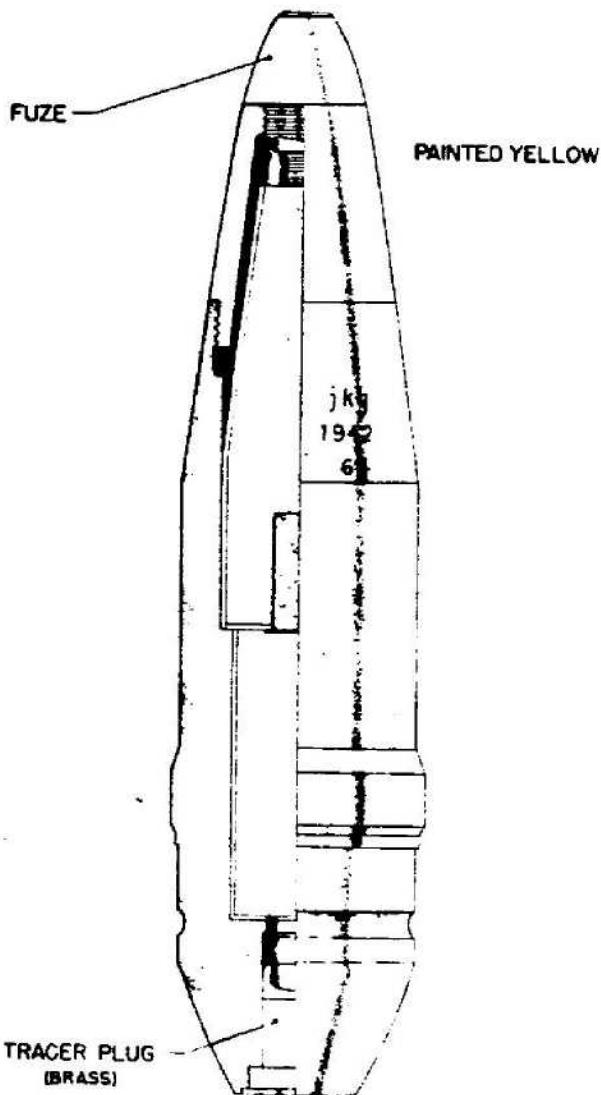

Figure 360—H. E. Projectile for Antiaircraft Gun, 40-mm, 4-cm Sprgr. Patr.
**GERMAN NOMENCLATURE:** 4-cm Sprgr. Patr. (Sprenggranate Patronen). (See fig. 360.)